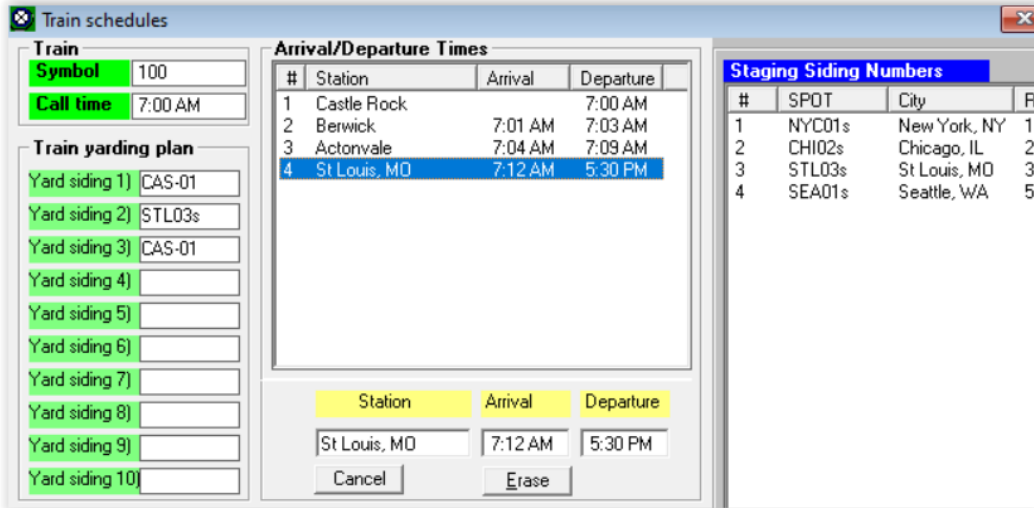

Figure 13-20b
- f. Then in the "Arrival/Departure Times" panel double click on the "St Louis" entry to bring it back to the editing panel, as shown in Figure 13-20b.